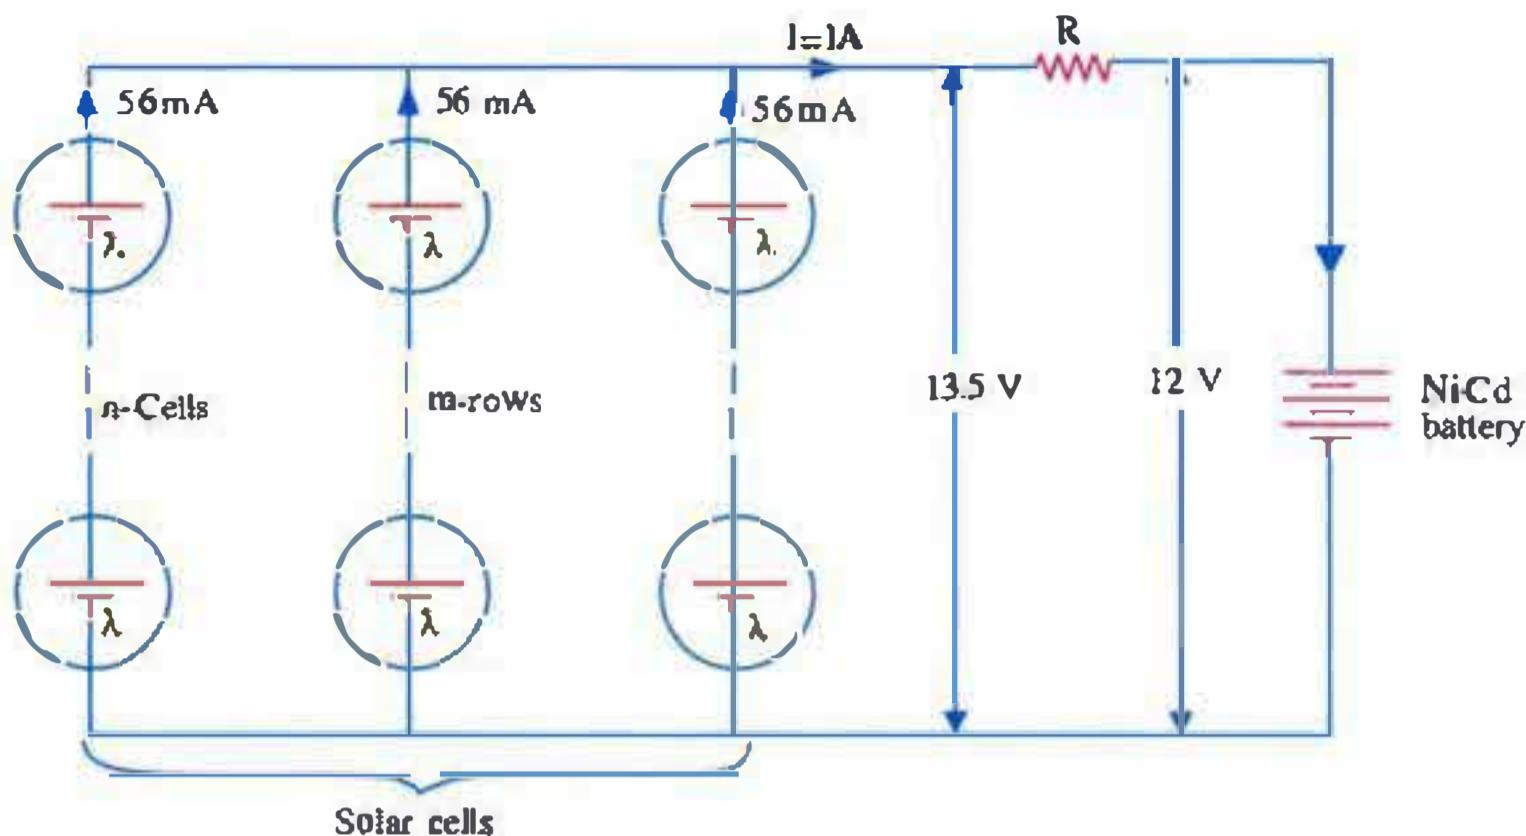

Fig. 6.10
**Solution.** The circuit for the solar cell battery charger is shown in Fig. 6.10. Let there be  $n$  cells connected in series to provide higher voltage and let  $m$  such series-groups be connected in parallel to provide the necessary current. Total number of cells required =  $m \times n$ .